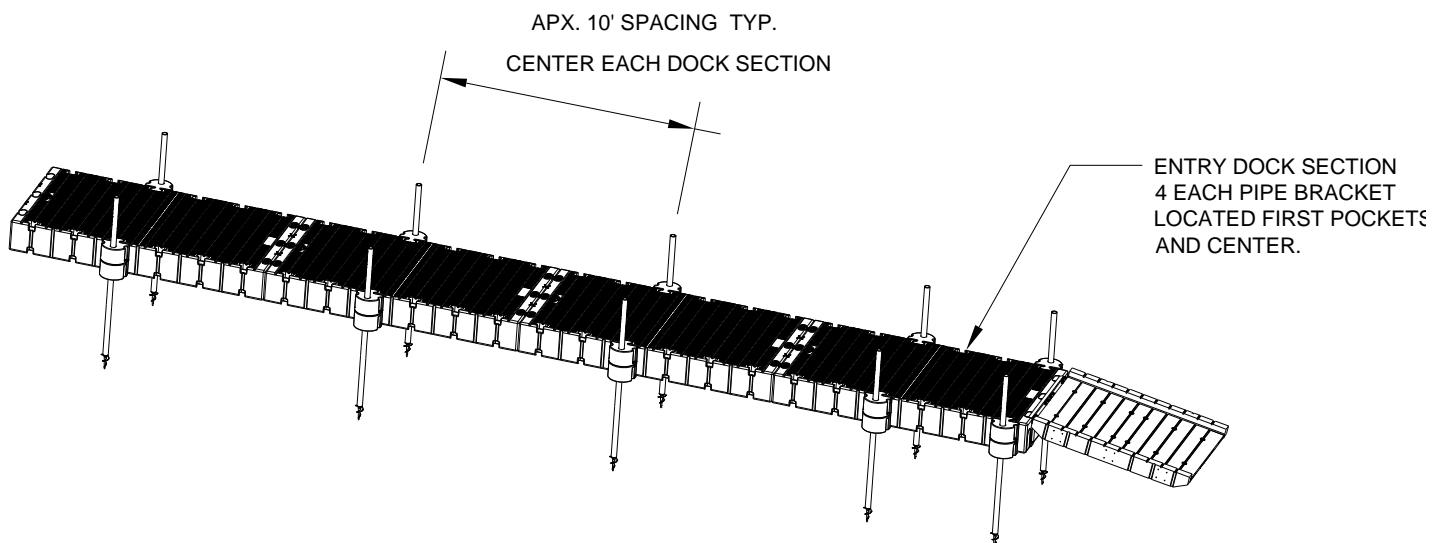

Figure 4
- To be used for suspended dock systems with water depths less than 12ft, weight loading max of 16 lb/sqft, and maximum suspended height of 4 ft above soil bed (see figure 4) (**Note: maximum weight loading assumes that pipes have been properly installed**)